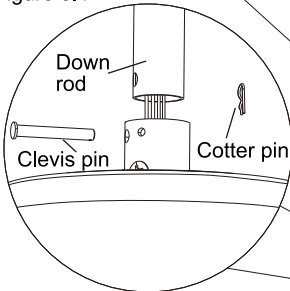

Figure 3.3
- Insert the clevis pin into the hole in the rod, being careful not to damage or cut the fan wire, and secure it with a cotter pin through the hole at the end of the clevis pin. (Figure 3.3)